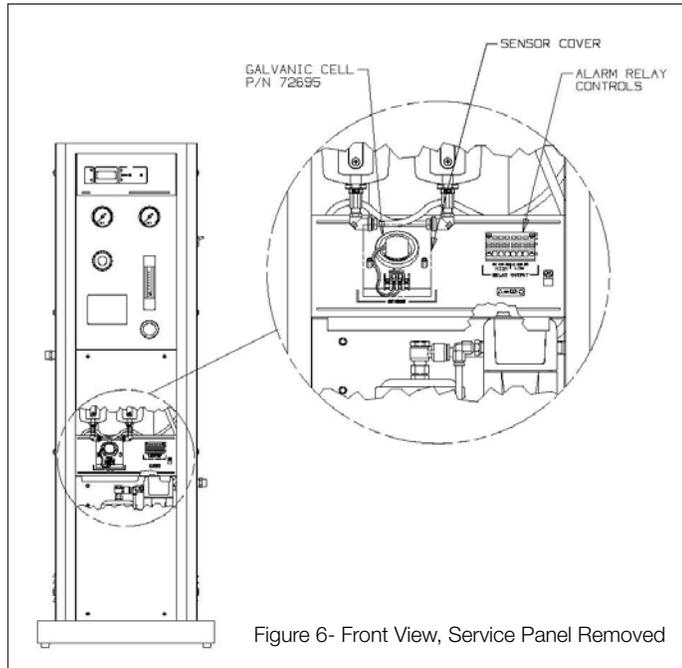

Figure 6- Front View, Service Panel Removed
- 1** Remove filter access panel and sensor cover to expose galvanic cell holder (see Figure 6).